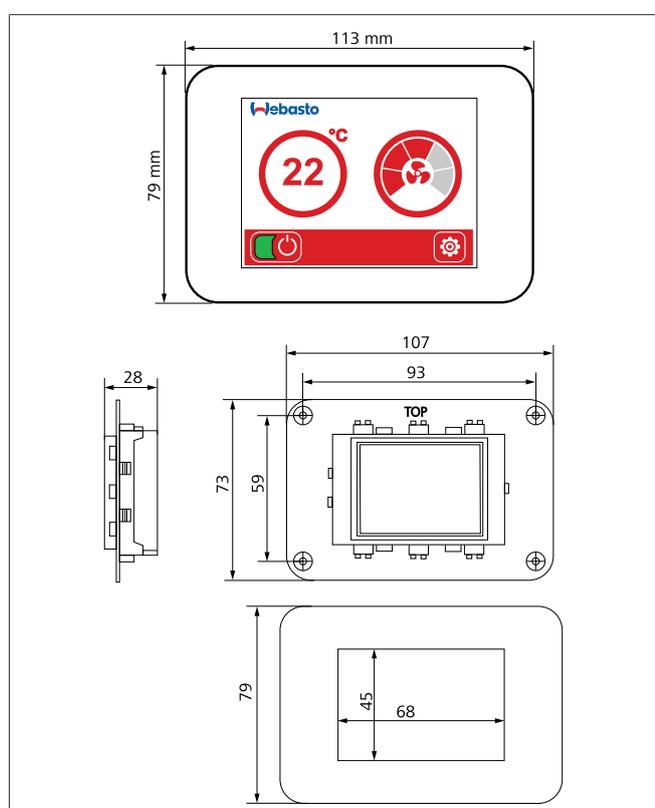

Fig. 12 Installing the BlueCool MyTouch
- Make the cutout for the control element in the required position. For cutout dimensions see Fig. 12.